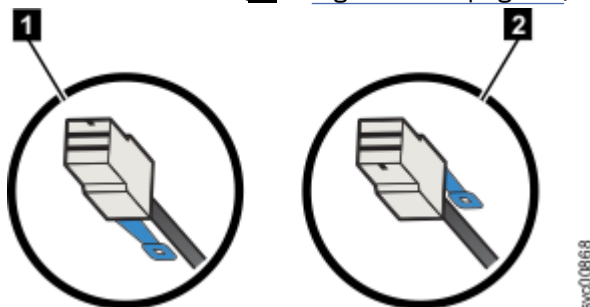

Figure 63. SAS cable connector orientation
When you insert SAS cables, make sure the connector (Figure 63 on page 93) is oriented correctly.
- For FlashSystem control enclosure node canisters and 2U expansion enclosures, the blue pull tab must be below the cable (**1** in Figure 63 on page 93).
- For 5U expansion enclosure canisters, the blue pull tab must be above the connector (2 in Figure 63 on page 93).